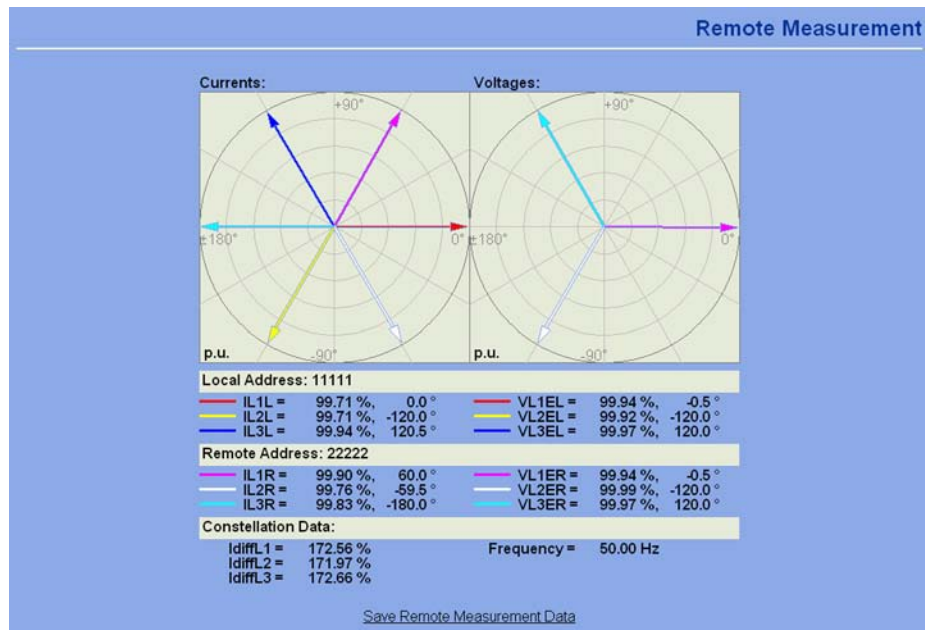

Figure 3-30 Remote measured values in the WEB-Monitor - Examples of plausible measured values
Here, again, the „WEB-Monitor“ is a convenient help since the vector diagrams also show the allocation between the currents and voltages (Figure 3-30). Cyclically and acyclically swapped phases can easily be detected.
- The above described tests of the measured quantities also have to be performed at the other end of the tested current path. The current and voltage values as well as the phase angles of the other end can also be read out locally as percentage values. Please observe that currents flowing through the object (without charging currents) ideally have opposite signs at both ends, i.e. they are turned by 180° . In the „WEB-Monitor“, the local and remote measured values can be shown graphically. An example is shown in Figure 3-30.